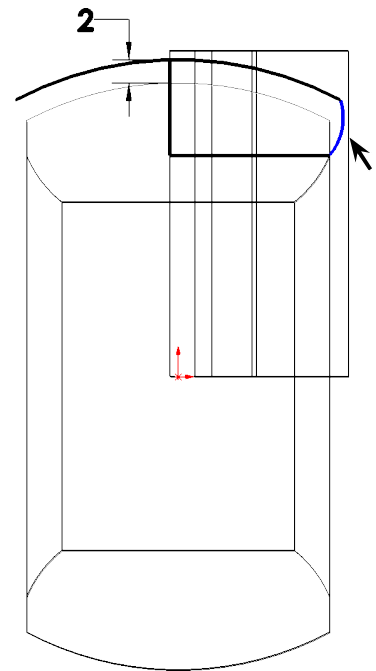

Fig. 22
Step 8. Click **3 Point Arc**  (S) in the **Arc flyout**  on the Sketch toolbar.
Step 9. Sketch **arc with start endpoints at left endpoint of line1, right endpoint at endpoint of offset arc and radius to outside tire**, Fig. 22.